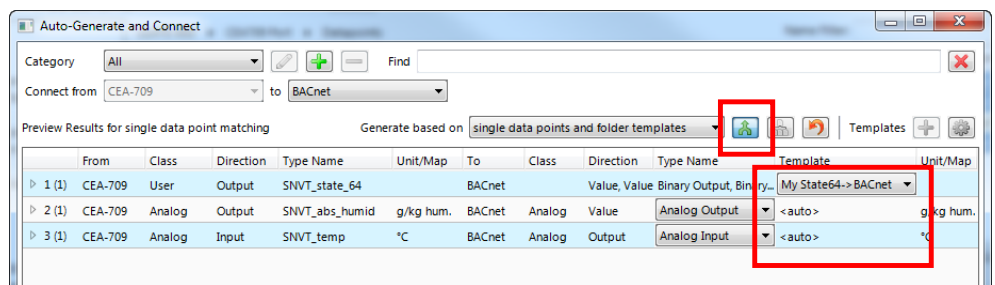

Figure 188: Auto-generate and connect with auto-generate template.
- Select an auto-generate template in the drop-down box of the **Template** column as shown in Figure 188.